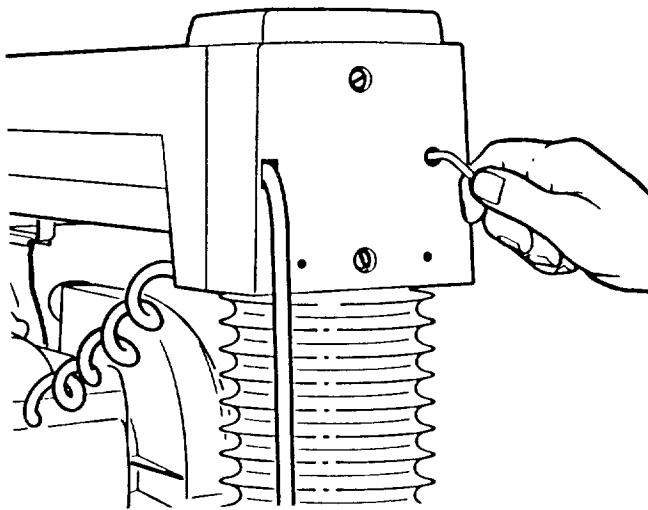

Fig. 150 - Location of Hex Socket Cap Screw
2. With a 3/16 inch hex "L" wrench find the 1/4-20 hex socket cap screw through the hole in the rear of the *arm cover*. To tighten turn the wrench clockwise approximately 1/4 turn. (Figure 150)